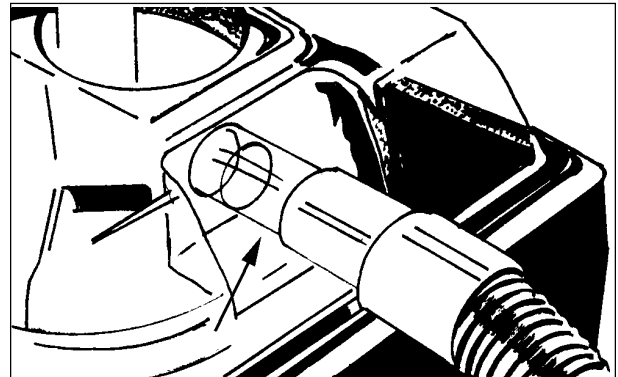

Figure 2
**The Vacuum Hose Connector See figure 2**